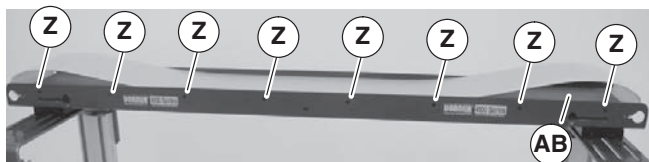
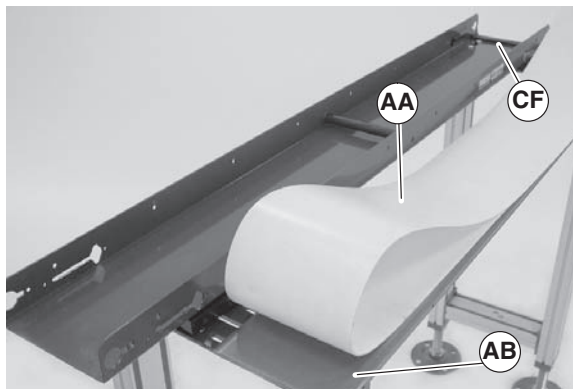
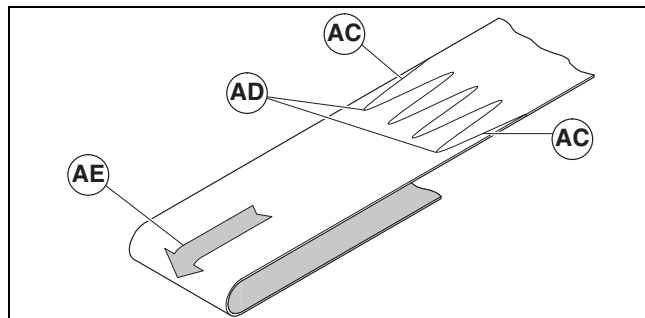

Figure 13
Figure 14
Figure 15
4. Remove screws (Figure 13, item Z) on both sides of conveyor and remove bed plate (AB).
5. Remove belt (Figure 14, item AA) from bed plate (AB).
1. Insert belt (Figure 14, item AA) inside frame. Orient belt so belt splice leading finger (Figure 15, item AD) points in direction of travel (AE) and trailing finger (AC) is as shown. Belt must run toward bottom wiper (Figure 14, item CF).
2. Insert bedplate (Figure 14, item AB) inside belt loop.
3. Attach bedplate (Figure 14, item AB) to conveyor frame with screws (Figure 13, item Z). Tighten screws to 14 in-lbs.